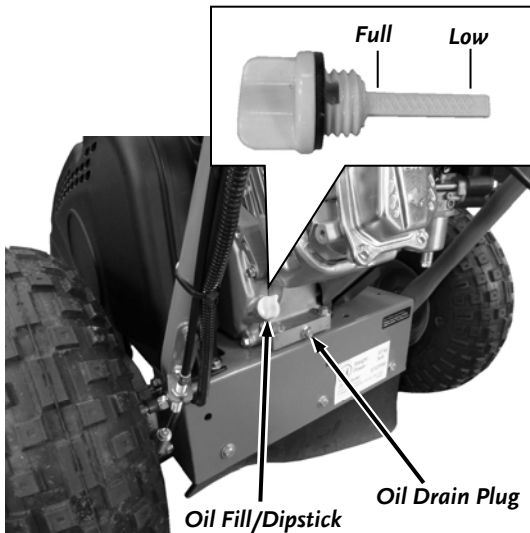

Figure 43
2. Position the machine so the Frame and Engine are level and place a Waste Oil Container under the Oil Drain Plug (**Figure 43**).